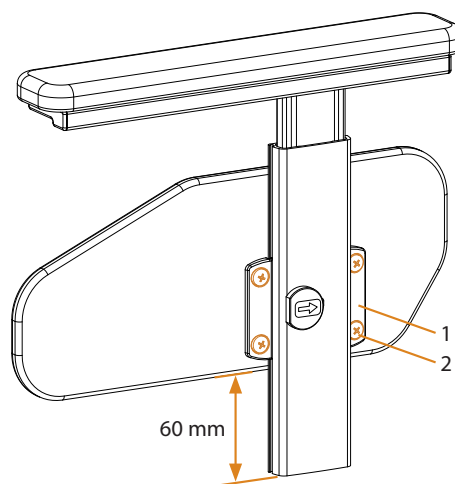

Figure 32. Side support
The side support is replaced by unscrewing the screws (2 in Figure 32) that hold the mounting tabs (1). The entire support can be replaced or just the cover. If the cover alone is changed holes for the screws must be made in the material. Ensure that the cover is properly fitted before making holes.